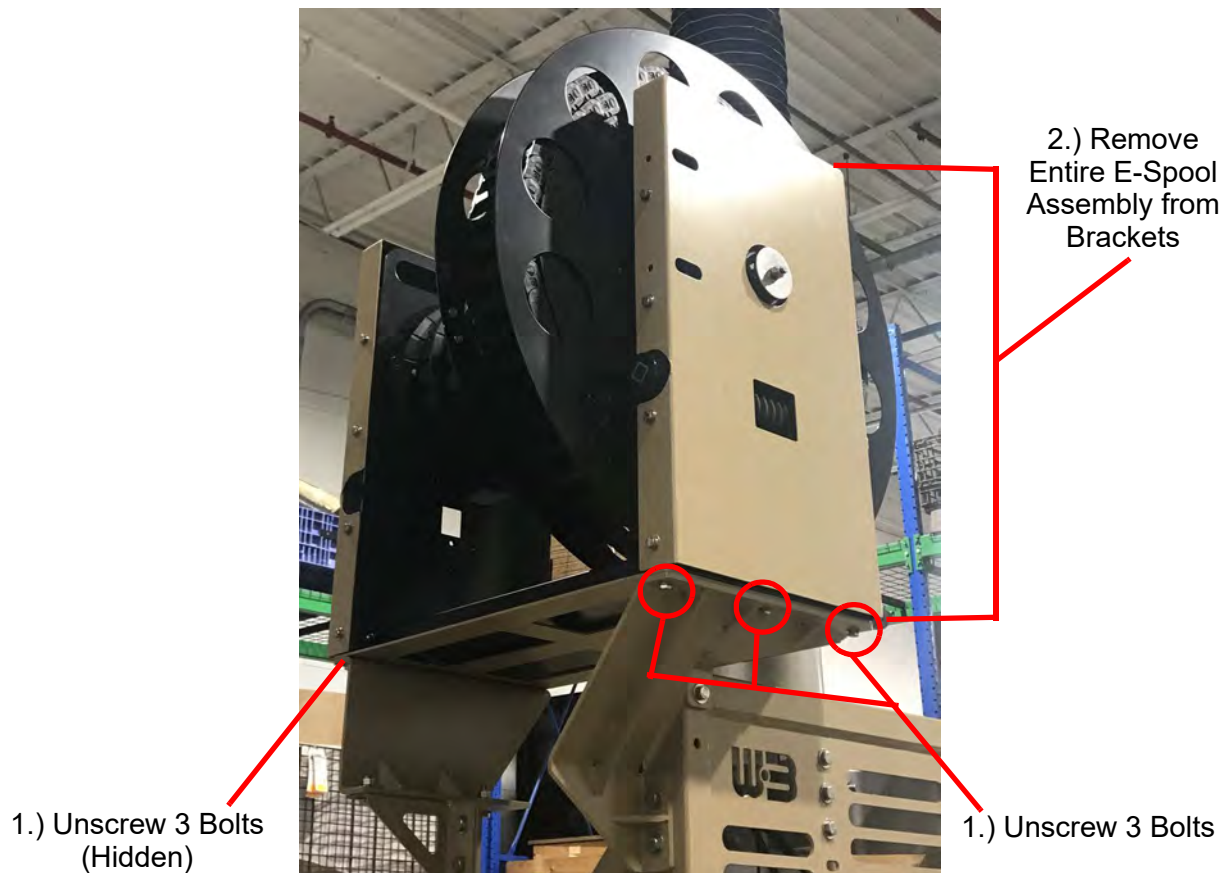

Figure 5-13 Remove Hardware Connecting Assembly to Unit and Remove Assembly from Unit
2. Unscrew the 6 bolts attaching the E-Spool Assembly to the brackets (Figure 5-13). Set hardware aside.
3. Lift up and remove the whole E-Spool Assembly from the tilt system (Figure 5-13). Note that the E-Spool assembly is heavy and the weight is awkwardly distributed. It may be best to have 2 people lift the E-Spool Assembly. Place onto a nearby, stable surface.